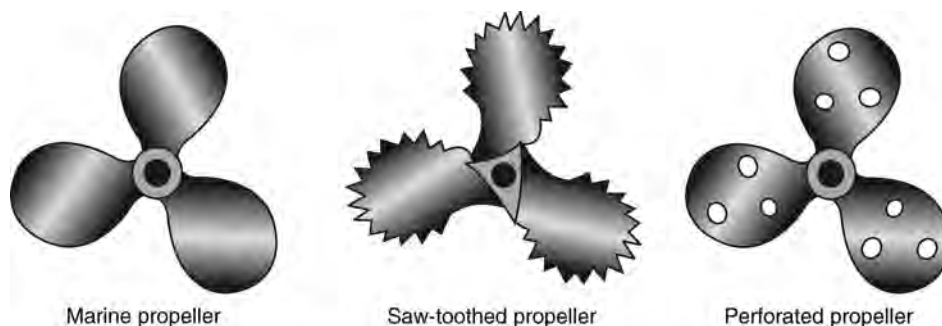

FIGURE 6.5 Marine, saw-toothed, and perforated propellers.
- Figure 6.5 illustrates three designs of propellers, namely, marine, saw-toothed, and perforated types.